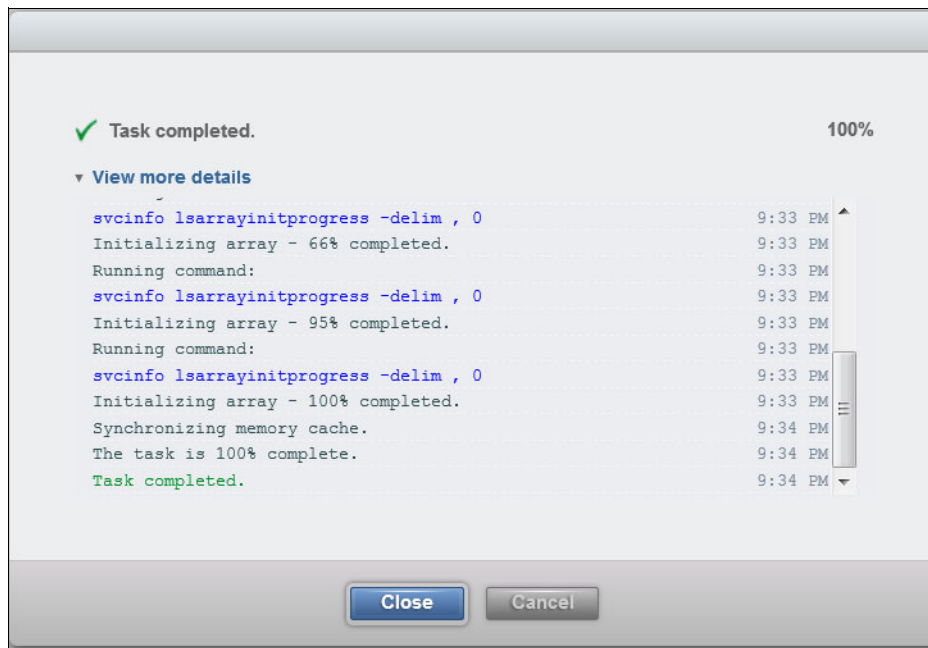

Figure 6-27 Add AE2 storage enclosure result
5. Wait for the task to complete (Figure 6-27). Click either **Cancel** to stop the task or **Close** to continue.